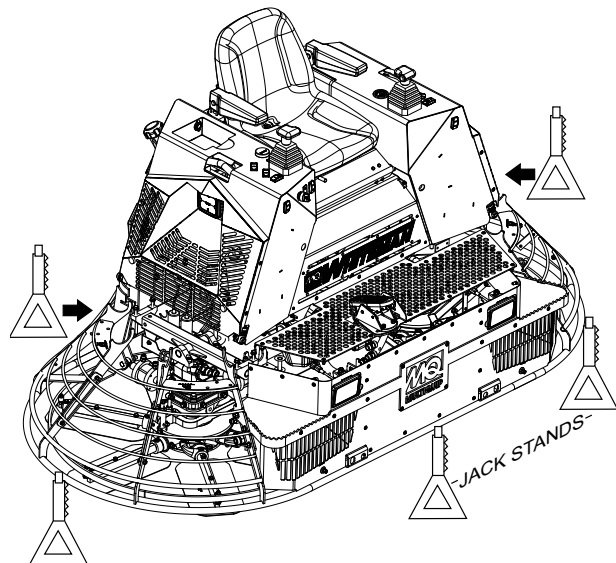

Figure 2. Jack Stand Support
2. Next, place the trowel on heavy duty jack stands as shown in Figure 2.